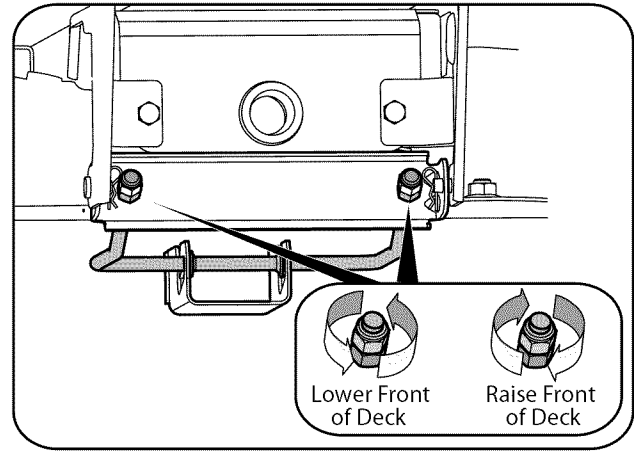

Figure 6-7
- Working at the front of the tractor, loosen the two hex lock nuts at the front of the deck hanger rod. Thread the lock nuts away from the hex nuts behind them. Refer to Figure 6-7.
- Use an open end wrench to turn the inner hex nuts to adjust the front of the deck. Turn the hex nuts clockwise to raise the front of the deck, or counterclockwise to lower the front of the deck. Adjust the hex nuts evenly so that the deck hanger rod is at the front of both slots in the hanger bracket on the front of the deck. See Figure 6-7.